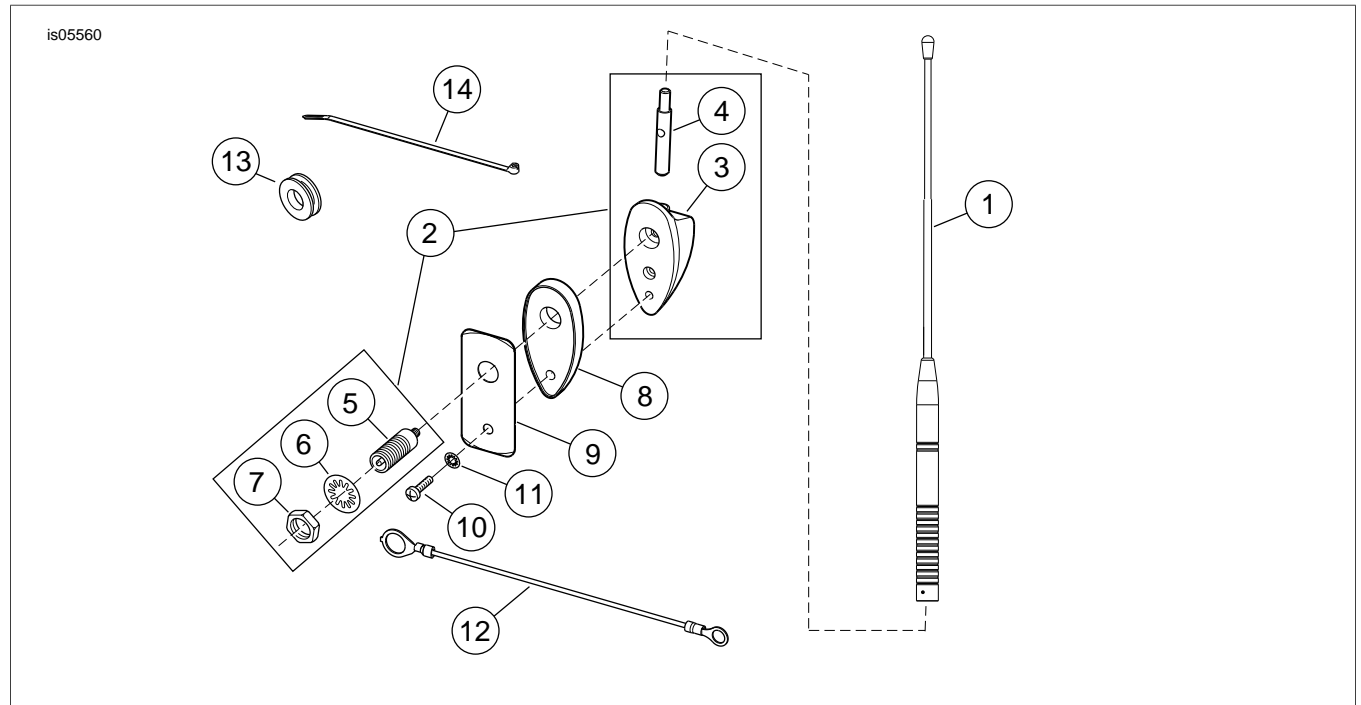

Figure 4. Service Parts: AM/FM Tour-Pak Mount Antenna
See Figure 4 and Table 1.
16. See Figure 4. Obtain the antenna base assembly (2) from the kit. Remove the hex nut (7) and internal tooth lockwasher (6) from the plug assembly (5) on the base.
17. Assemble the base gasket (8) to the antenna base.
18. With the antenna mast stud (1) facing **up**, position the base assembly over the holes drilled earlier in the outside rear Tour-Pak wall. Be sure the plug assembly (5) goes through the larger (top) hole.
19. Place the antenna reinforcement plate (9) in position inside the Tour-Pak. Obtain the ground cable (12) from the kit, and place the large ring terminal over the plug assembly. Use the hex nut (7) and lockwasher (6) to attach the ground cable to the plug assembly, but do not fully tighten at this time.
21. Install the TORX® screw (10) and small lockwasher (11) through the smaller (bottom) hole of the antenna reinforcement plate into the antenna base. Tighten the screw securely. Tighten the hex nut securely.
22. Thread the antenna mast assembly (1) onto the antenna base adapter.